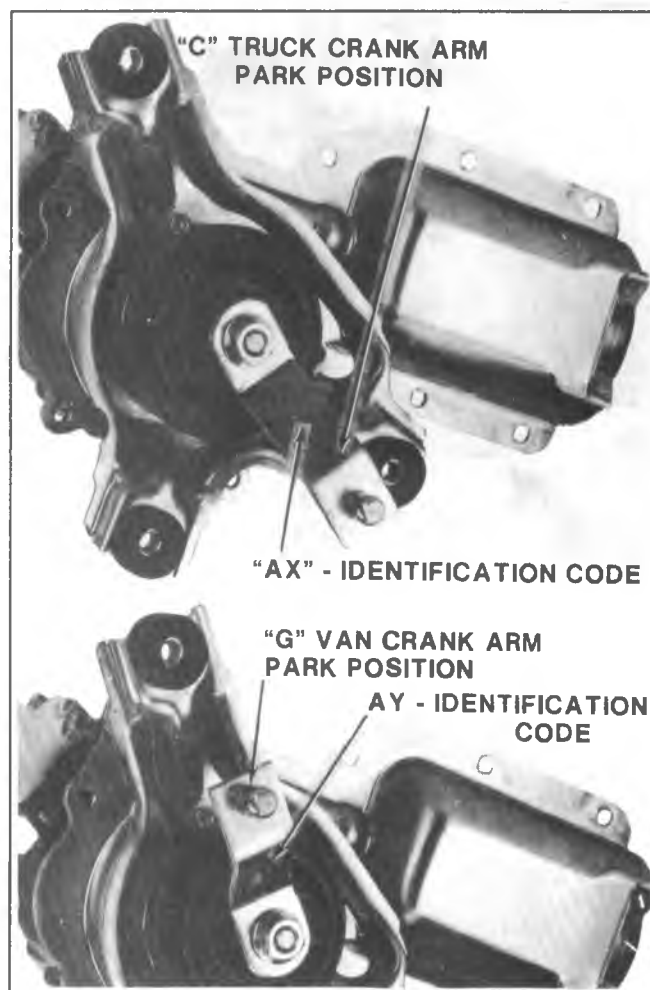

Fig. 8-36-Crank Arm Park Position
2. When re-assembling the crank arm, be sure wiper motor is in park (refer to figure 8-36), and assemble crank arm on shaft in position shown in Figure 8-36.